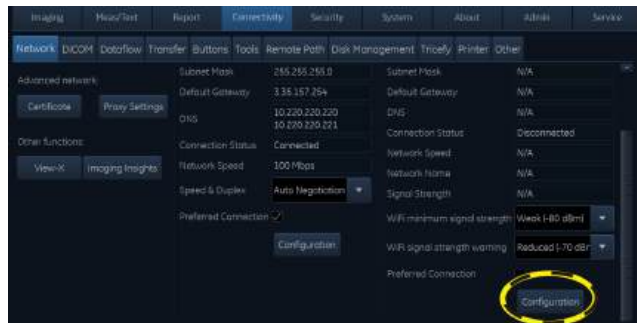

Figure 4-33. Connectivity - Network Tab
4. Click the **Configuration** button (see Figure 4-33.)